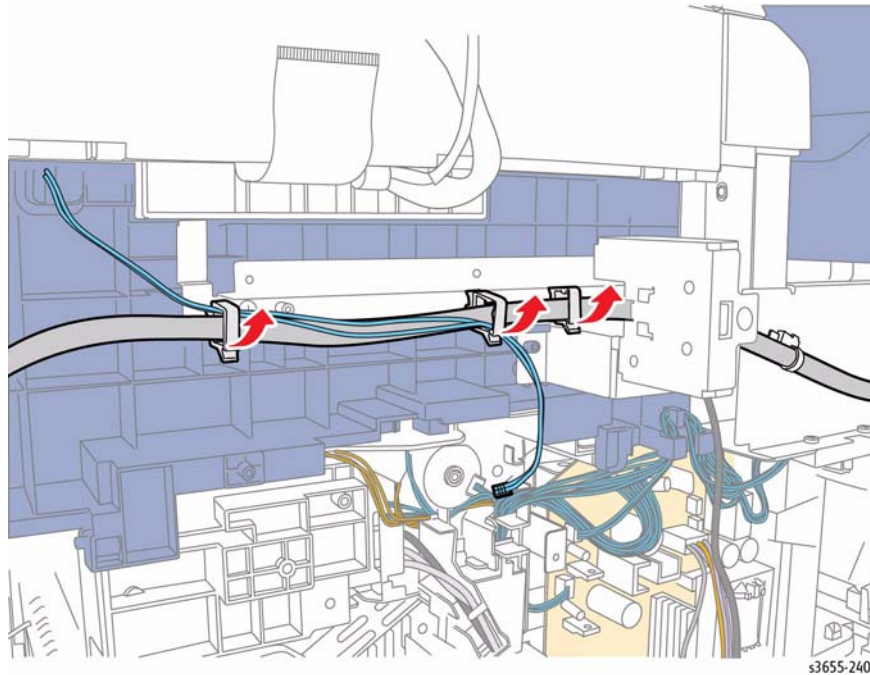

Figure 1 Release the Control Panel cable
9. Refer to Figure 1 to locate and release the Control Panel cable from 3 clamps and 1 tie that secure the cable to the chassis and UI Hinge Assembly.